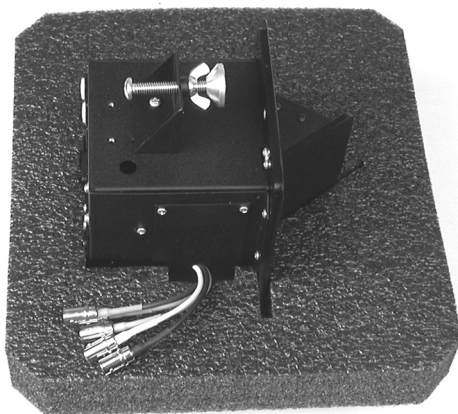

Figure 34. Installing the HSA into the Foam Shell
5. Open the top panel and insert the HSA 200 or HSA 222 into the custom cutout portion of one of the foam shells (see figure 34).